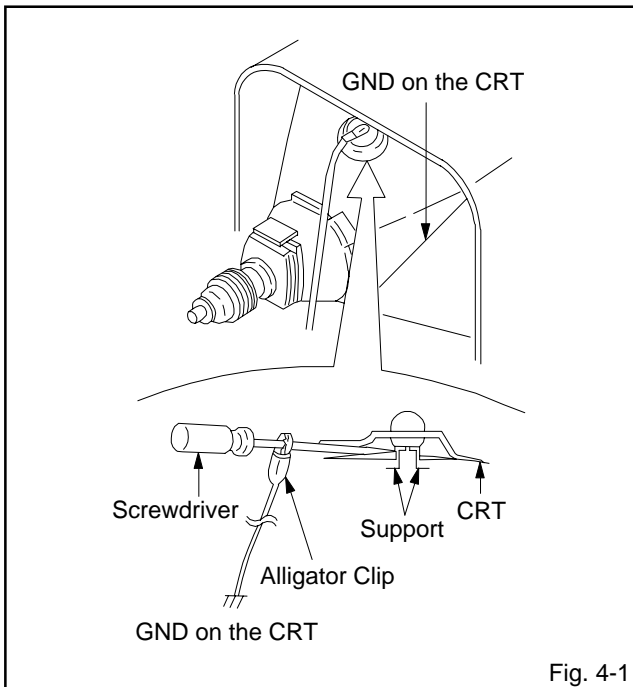

Fig. 4-1
1. Follow the steps as follows to discharge the Anode Cap. (Refer to Fig. 4-1.)